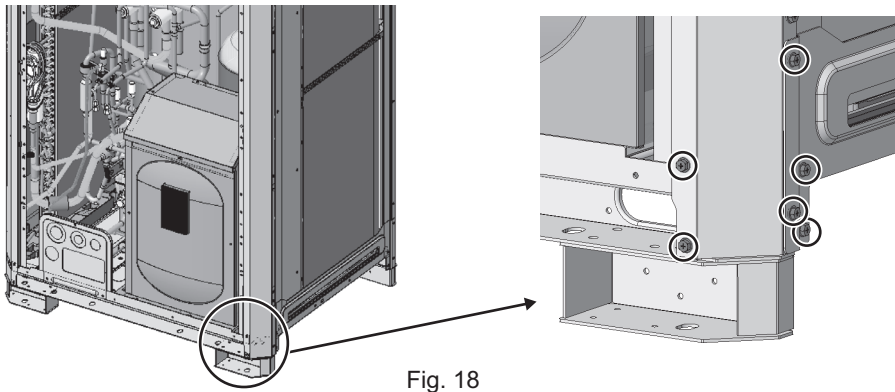

Fig. 18
- (3) Remove the screws that secure the right pillar on the front side and remove the pillar. (Six screws: Fig. 18)